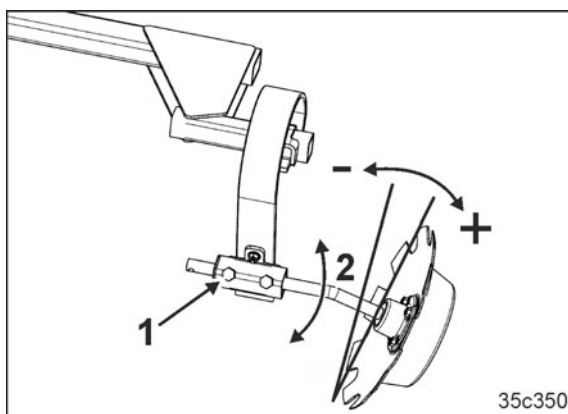

Fig. 206
5. Loosen the bolts (Fig. 206/1)
6. Turn the track marker disc (Fig. 206/2) to adjust the working intensity of the track marker so that it runs roughly parallel to the direction of travel on light soils and is set more on-grip on heavier soils.
7. Tighten the bolts (Fig. 206/1)